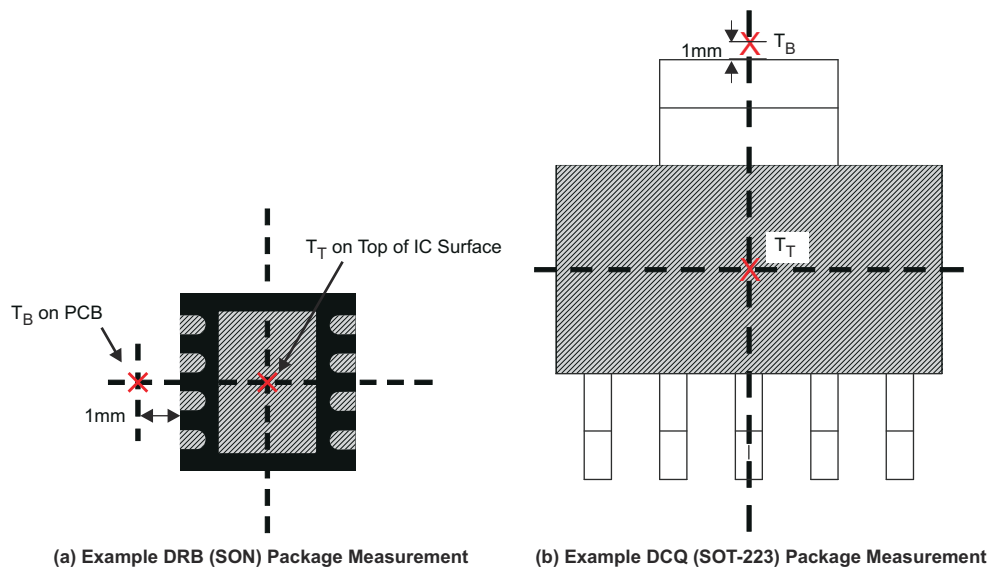

Figure 7-8. Measuring Point for T_T and T_B
- T_B is the PCB temperature measured 1 mm away from the device package *on the PCB surface* (see Figure 7-8)